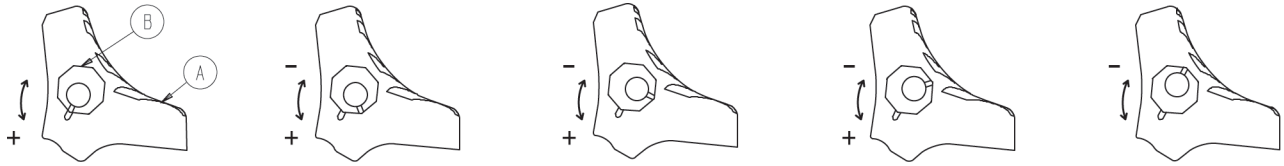

Figure 4 – Wheel locking force adjustment
1. Using a 5/32" hex wrench and 7/16" combination wrench or socket, remove the socket screw from the center of the lock pedal. Save the screw. The wheel lock is initially assembled with the pedal set at the minimum locking force. The marker on the pedal (A) is aligned with the marker on the octagonal sleeve (B) (Figure 4).
2. Remove the octagonal sleeve (B). Rotate the octagonal sleeve counterclockwise to increase the pedal locking force and clockwise to decrease the locking force. Insert the octagonal sleeve into the pedal.